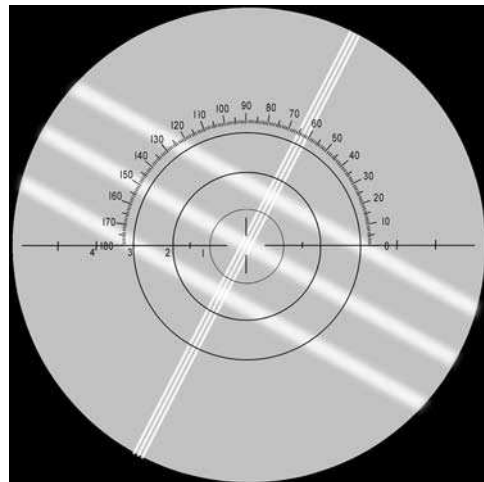

Fig. 9
1. With the lens clamped in position against the lens stop, slightly release the pressure of the lens clamp by pulling back somewhat on the lens clamp handle. Move the lens so that the center of the target is located at the center of the reticle (Fig 9).
5. The amount of prism power is indicated by the displacement of the target center with reference to the concentric circles of the reticle. Powers of 1.00 to 4.00 prism diopters are clearly indicated with numerical designations. Small cross-lines on the prism scale indicate 1.5 prism diopters and 5 prism diopters at the extreme ends of the scale. Fig. 9 indicates a prism power of 3 diopters at an axis of 35°. If the center of the target is below the center of the eyepiece scale, add 180° to the axis scale reading.